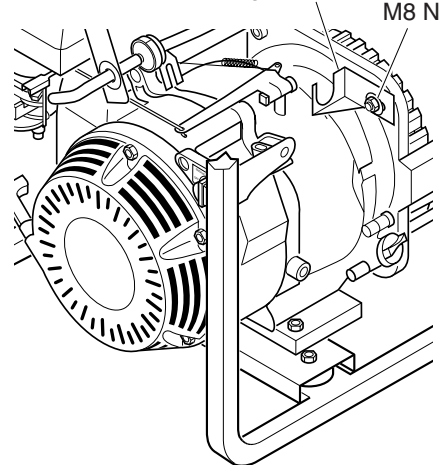
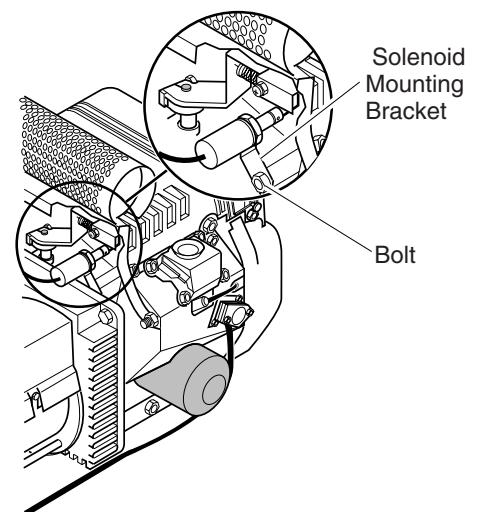

Figure 27 - Solenoid Bracket Location, Models MGH4000CI, MGH5000DI, MGH5000DIE, MGH6000DI, and MGH6500IE Only
Figure 28 - Solenoid Bracket Location, Model MGH10000A Only
4. Loosen the M8 nut that holds the solenoid mounting bracket to the generator (Models MGH4000CI, MGH5000DI, MGH5000DIE, MGH6000DI, and MGH6500IE. See Figure 27). Do not loosen bolt that holds the solenoid mounting bracket to the generator on Model MGH10000A (see Figure 28).
7. After reaching proper idle speed, tighten M8 nut to secure solenoid mounting bracket (Models MGH4000CI, MGH5000DI, MGH5000DIE, MGH6000DI, and MGH6500IE (see Figure 27).